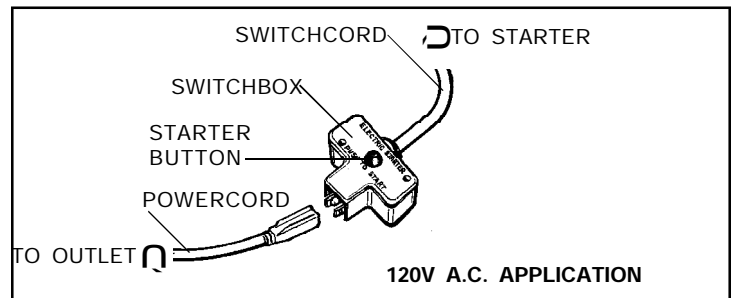

Figure 4
### ELECTRIC STARTER (see Figure 4)
- B. Plug other end of power cord (see Figure 4) into wall receptacle.
- E. Push starter button (see Figure 4) or turn ignition switch key (see equipment manufacturer's instructions) to crank engine.
- H. Disconnect power cord (see Figure 4) from wall receptacle first, and then from switchbox on engine.